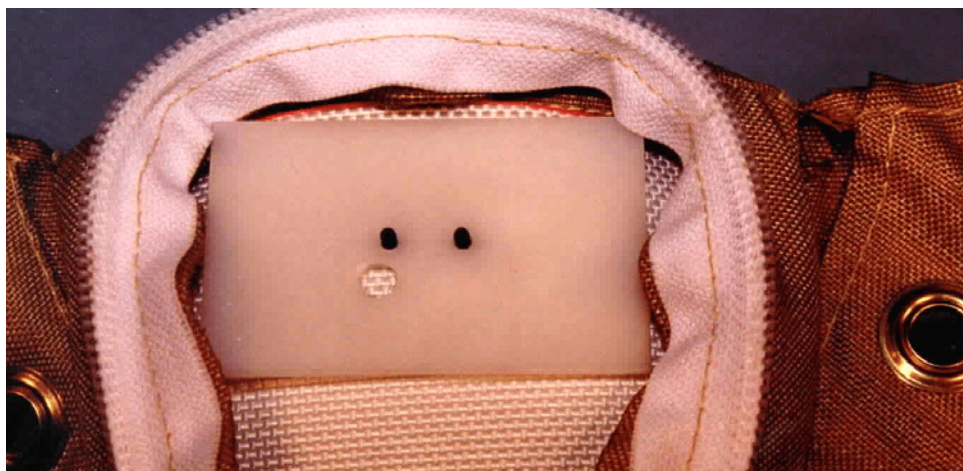

Figure 9.13- Load Distribution Plate inside of bag
15. Position the Load Distribution Plate (T1UAM013) on the inside front surface of the upper abdomen bag and push the holes of the plate onto the protruding bolts from Step 14, as shown in **Figure 9.13**.